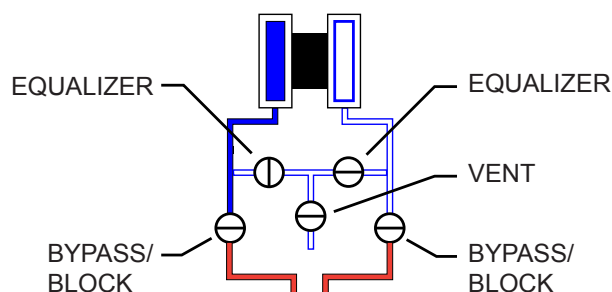

Figure 2.18—Valve positions for differential pressure calibration
1. Close the bypass valves to isolate the pressure below the manifold (Figure 2.18).